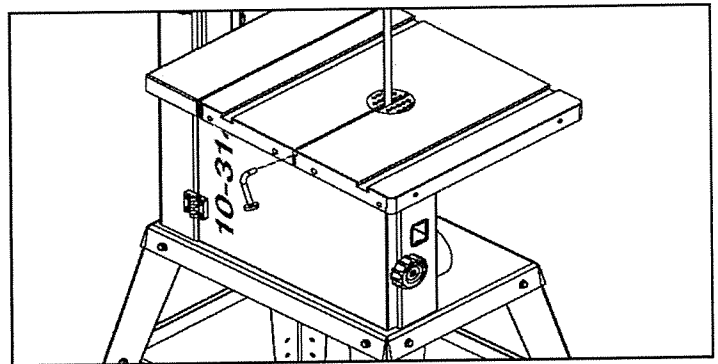

FIGURE 5
2. Install the Table Leveling Pin through the front hole in the edge of the table, and secure it place by pushing the pin in approximately 1/4" (6mm). FIG. 5.